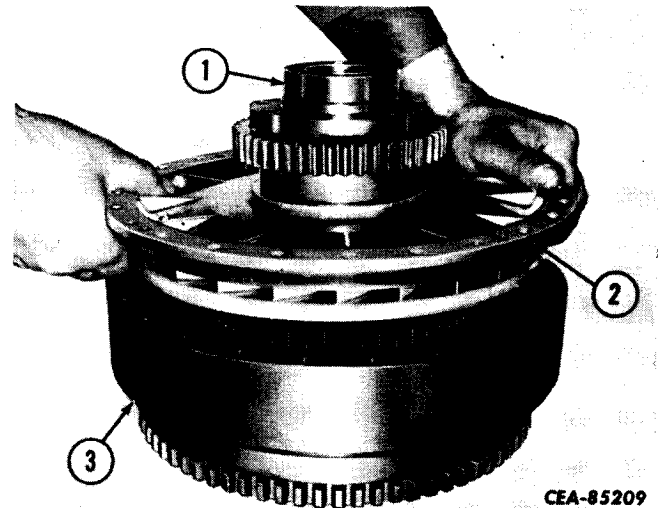

Figure 3-11
Lift the impeller wheel assembly (2, Fig. 3-11) off of the rotating housing (3). The output shaft ball bearing (1) will also be removed by this operation.